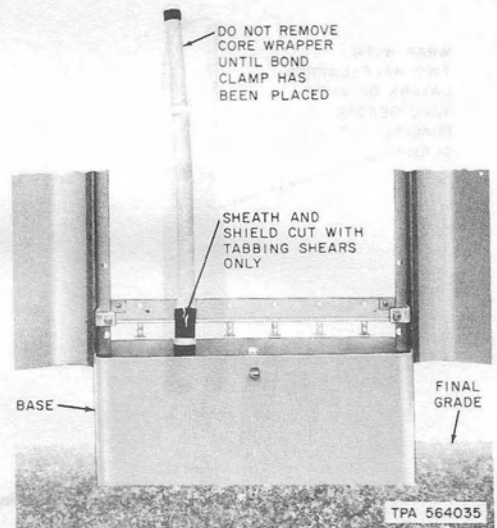

Fig. 28—Sheath Removed
- 7.03** Score the cable sheath at the 1/4-inch mark, remove the sheath. **Do not remove the core wrapper.** Using tabbing shears, cut the sheath and shield between the B Paper Tape Markers (Fig. 28). Remove the B Paper Tape Markers.